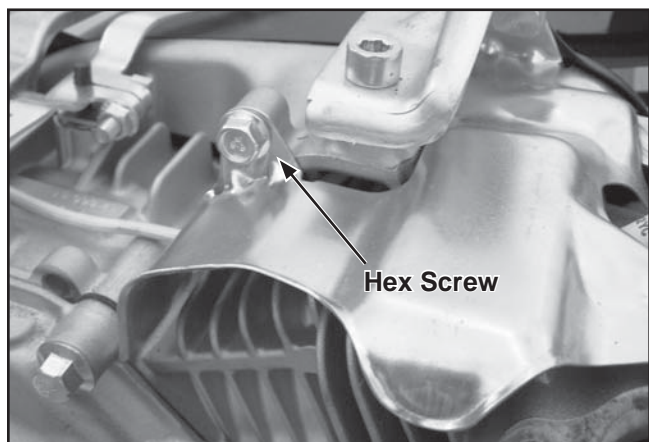

Figure 9-21. Remove CH270 Upper Shield Hex Flange Screws.
3. Remove the hex flange screws securing the upper shield and remove the shield. See Figures 9-21 or 9-22.